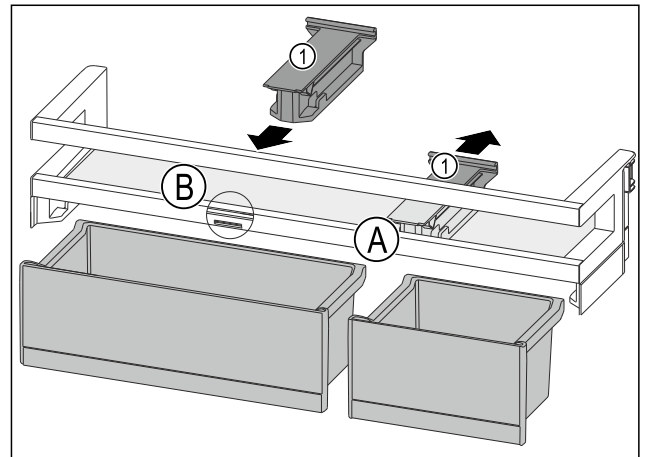

Fig. 111
- ▶ Pull off the retaining part Fig. 111 (1) in position Fig. 111 (A) downward.
- ▶ Insert the retaining part Fig. 111 (1) in position Fig. 111 (B).